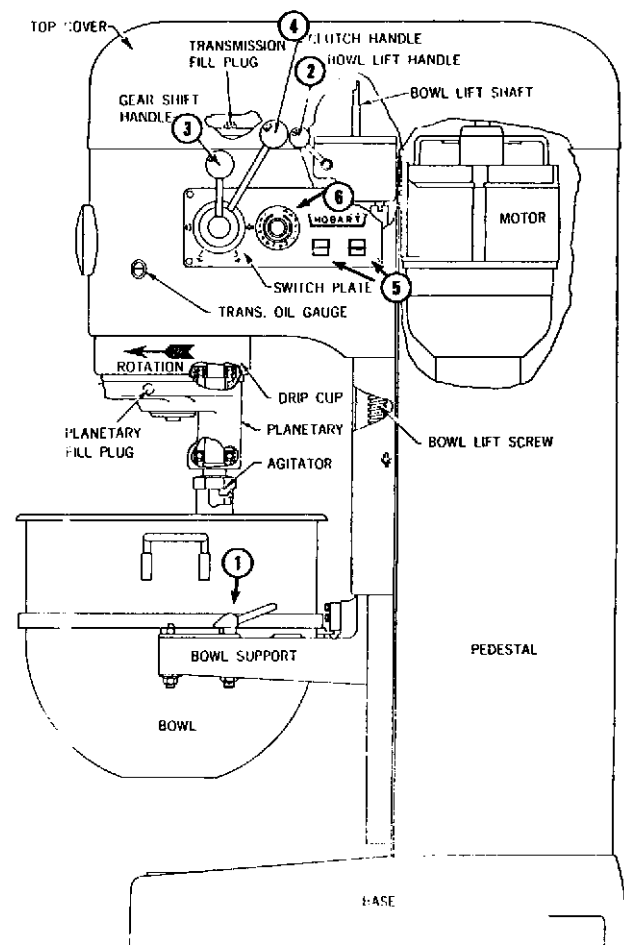

Fig. 4-1
- A. The Bowl Clamps (1, Fig. 4-1) are used to lock the bowl in position on the bowl support.
- B. The Bowl Lift Handle (2, Fig. 4-1) is used to automatically raise and lower the bowl support. The slip clutch on the power bowl lift will ratchet at the top and bottom stop positions to signal end of travel and to protect the operating mechanism.
- C. The Gear Shift Handle (3, Fig. 4-1) is used to select the desired operating speed. Speed selection must be made **WITH THE CLUTCH DIS-ENGAGED**.
- (1) The number "1" (LOW) speed is for heavy mixtures like dough, heavy batters and potatoes.
- (2) The number "2" (MEDIUM-LOW) speed is for mixing cake batters, mashing potatoes and developing bread doughs.
- (3) The number "3" (MEDIUM-HIGH) speed is for egg whites, whipping cream, light icing and meringues.
- (4) The number "4" (HIGH) speed is used for products as in 3rd speed but at an accelerated rate.
- D. The Clutch Handle (4, Fig. 4-1) is used to engage the transmission after the speed has been selected.
- E. The Start and Stop switches (5, Fig. 4-1) are used to start and stop the motor by pressing on the appropriate button.
- F. The Timer (6, Fig. 4-1) can be set to automatically control the mixing time up to 15 minutes (30 and 60 minute timers are optional). When setting time, turn past 3 and then set the time. For non-timed operation, turn the timer knob counterclockwise to the HOLD position and press the start button. A mechanical stop prevents the timer from being moved clockwise past the maximum time setting to HOLD.